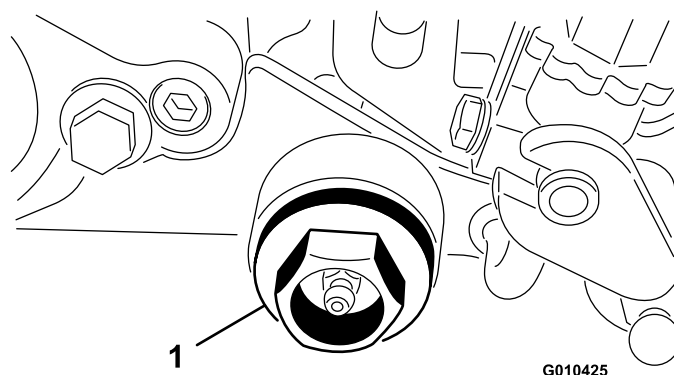

Figure 36
10. Remove the cap plug from the groomer housing (Figure 36).